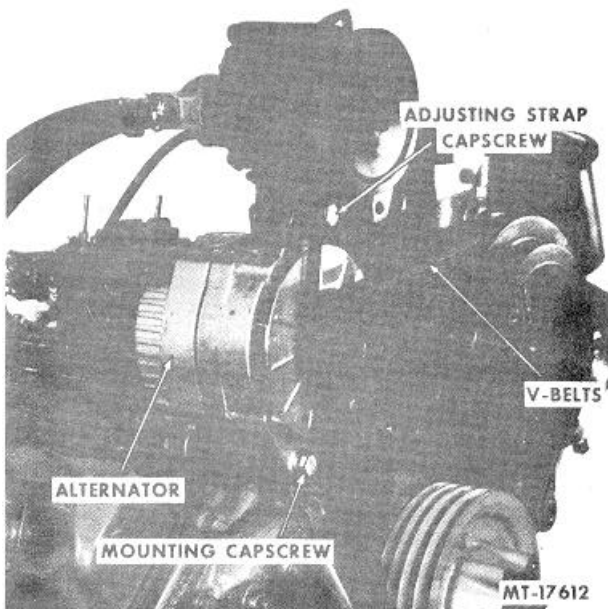

Fig. 12
7. Loosen alternator adjusting strap capscrew and mounting capscrew (Fig. 12) and slide alternator toward engine centerline. Remove alternator and air compressor drive belts.